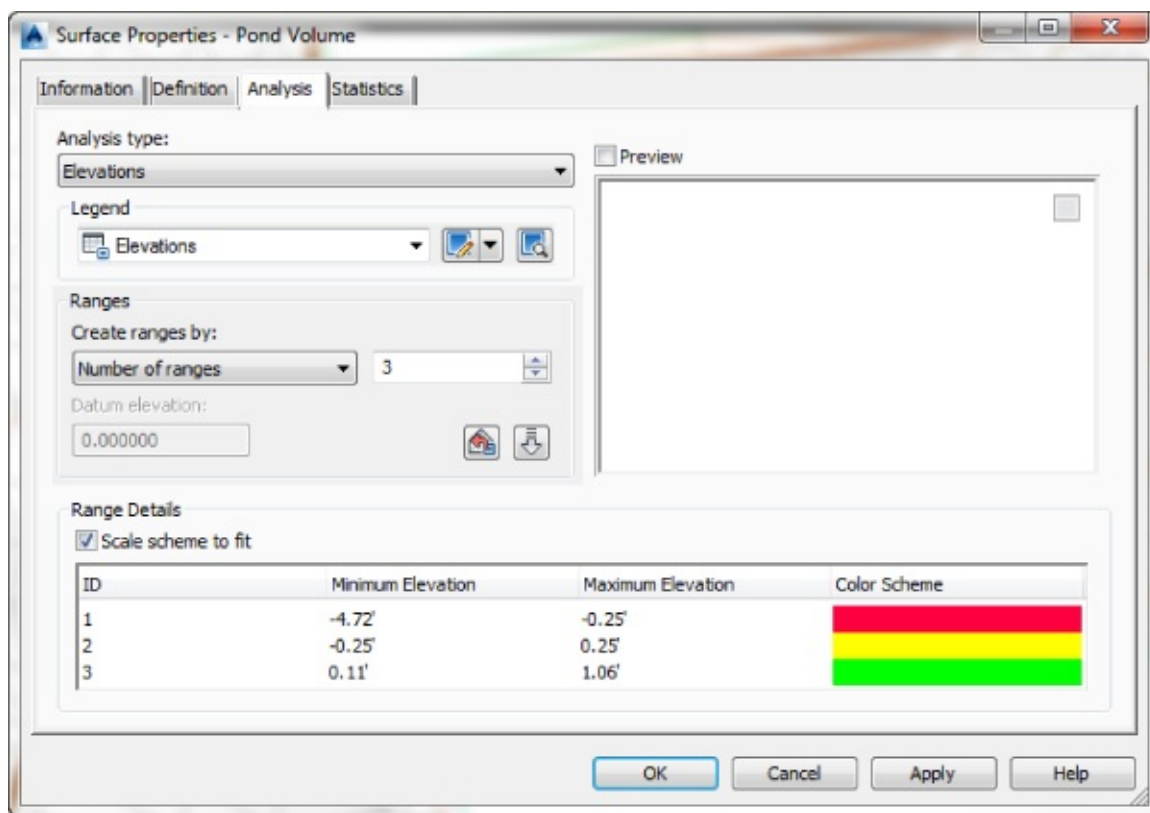

Figure 4.48 Elevation analysis settings for earthworks
Figure 4.48 shows the completed elevation analysis settings.
34. Change the ranges to match those you entered in the previous portion of the exercise (as shown in Figure 4.48).